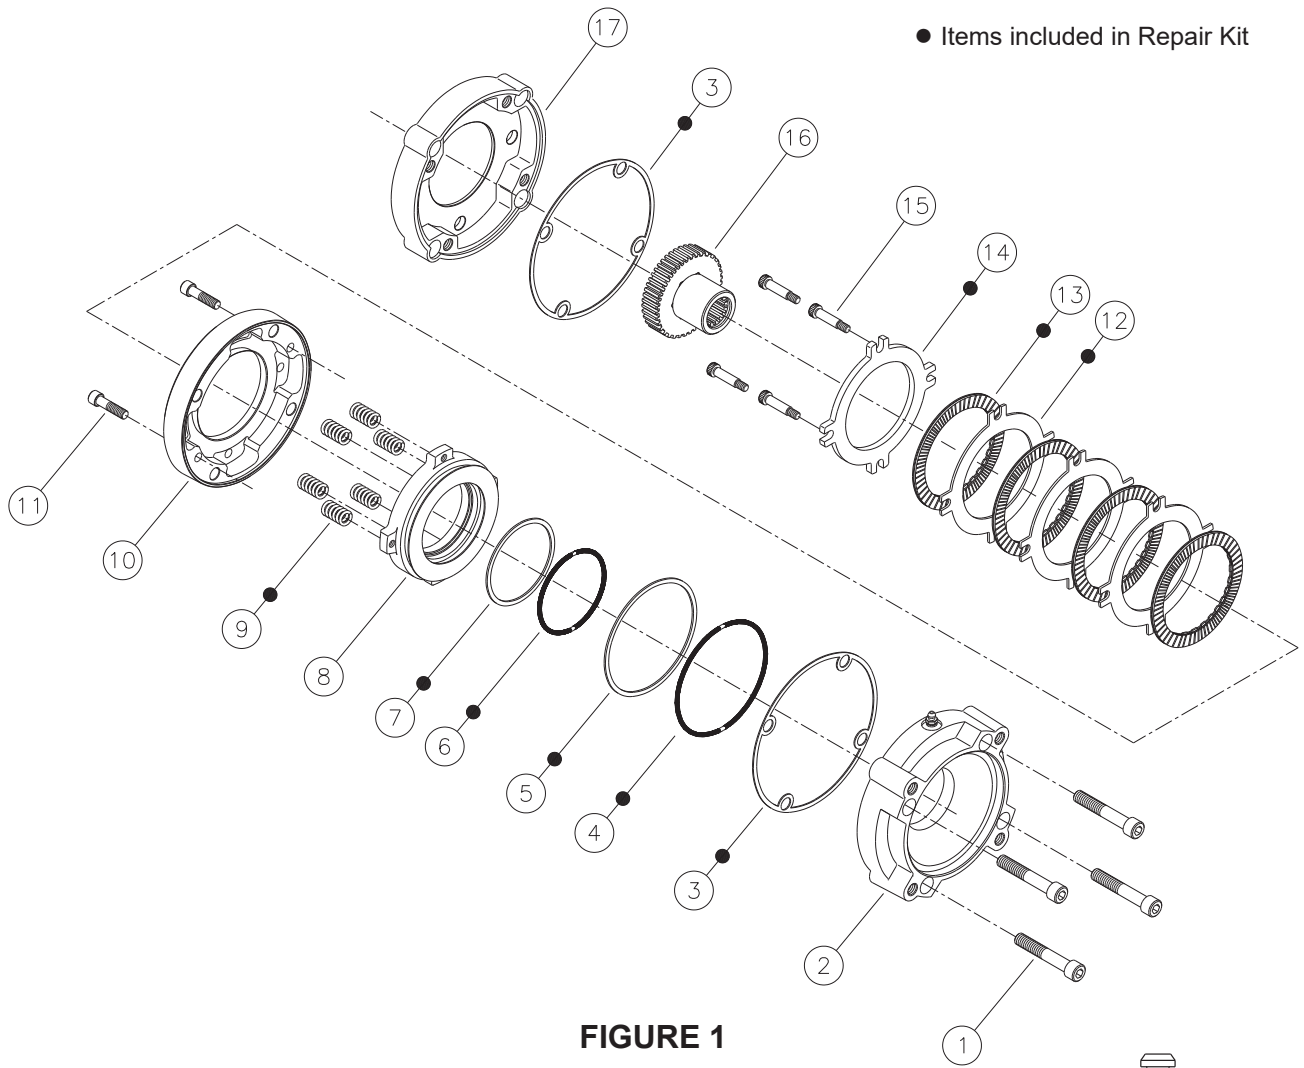

FIGURE 1
(Refer to Figures 1 and 2)
2. Install new back-up rings (5 & 7) and new o-rings (4 & 6) on piston (8). Back-up rings are on the spring pocket side of piston (8). Be sure o-rings are flat and all twists are removed. **NOTE: Be careful not to scratch or mar piston.**
3. Lubricate piston (8) with clean type fluid used in the system. Carefully press piston into pressure plate (2). Be sure piston (8) is positioned so that the threaded holes in the piston are aligned with the through holes in spring plate (10) when installed.
4. Install new springs (9) in the spring pockets on piston (8). Be sure to install springs according to pattern recorded during disassembly. Contact ZF Off-Highway Solutions Minnesota Inc. if you have questions regarding spring pattern.
5. Affix new case seal (3) to spring plate (10).
6. Place unit on a press. A suitable fixture is useful to hold the brake in position. Depress and install two socket head cap screws (11). Apply two drops of Loctite #242 to threads and torque 47.5-54.2 N·m (35-40 lb·ft).
7. Install new rotor discs (13) and new stator discs (12) in the same sequence as shown in Figure 1. Install new primary stator (14). **NOTE: Be careful to avoid contaminating friction surfaces with oil.**
8. Align the discs and partially screw in four socket head shoulder bolts (15). A suitable holding fixture is useful to hold brake in position. Apply two drops of Loctite #242 to threads of shoulder bolts (15). Inspect for free movement of stack. Pressurize brake release port approximately 20.7 bar (300 PSI) to release discs. Torque shoulder bolts 20.3-24.4 N·m (15-18 lb·ft).
9. Affix new case seal (3) to cover plate (17) and install cover plate (17) on spring plate (10). Apply two drops of Loctite #242 to threads of socket head cap screws (1). Install socket head cap screws (1) and evenly torque 115.3-122.0 N·m (85-90 lb·ft).